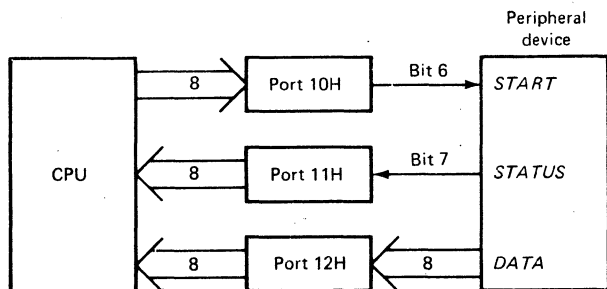

Fig. 14-15
- 14-3.** Instead of the handshaking bits shown in Fig. 14-15, we prefer to use bit 0 of port 10H for the *START* bit, and bit 1 of port 11H for the *STATUS* bit. Write a program that inputs and stores 256 bytes of data at addresses 5000H to 50FFH.
- 14-4.** Write a program that inputs and stores 512 bytes at addresses 5000H to 51FFH. Use the handshaking bits shown in Fig. 14-15.